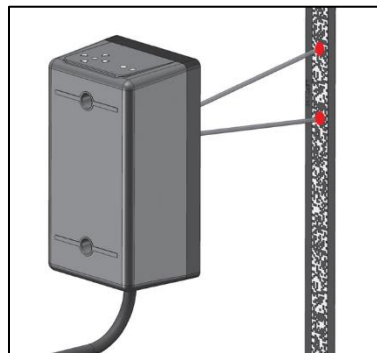

Figure 2-17: APS Camera Alignment Spotlights
- Temporarily obstruct the field of view of the APS camera for 5 seconds, and then remove the obstruction. Two red alignment spotlights should appear on the encoded tape. These spotlights represent the center of the field of view of each APS camera. Adjust the camera so the spotlights are in the center of the encoded tape. See Figure 2-17.
- Adjust the J-hook bracket and guide clip so the door zone bridge is positioned at the midpoint between the two APS cameras. If the alignment spotlights are not visible, temporarily obstruct the field of view of the APS camera for 5 seconds, and then remove the obstruction. Two red alignment spotlights should appear on the encoded tape. See Figures 2-17 and 2-21.